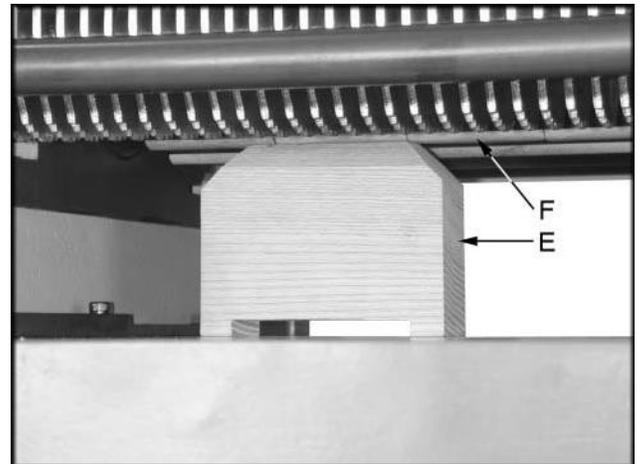

Figure 15
4. Remove feeler gauge and place wood gauge (E, Fig 15) under the left side of chipbreaker (F, Fig 15).